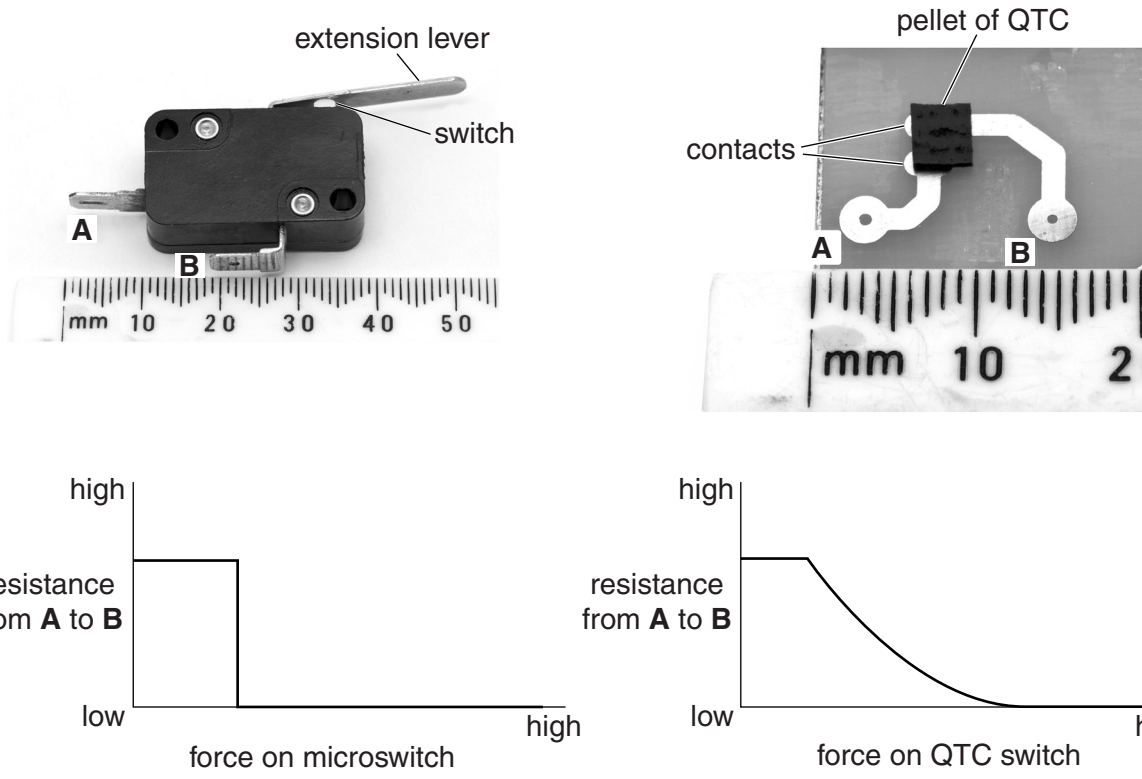

Fig. 8
- (ii) Quantum Tunnelling Composite (QTC) is a modern material that can be used to sense an applied force in a device such as the grab arm in Fig. 1. Another sensor that could be used is a microswitch. Details of both sensors are shown in Fig. 8.